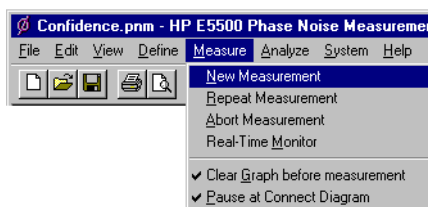

Figure 11-9 Selecting a New Measurement
- 2 From the **Measurement** menu, choose **New Measurement**. See Figure 11-9.